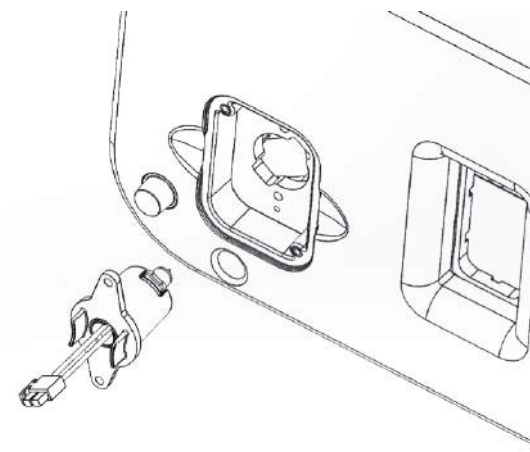

Fig. 3
5. Grab the two tabs on the plastic lamp assembly and remove the whole lamp assembly, this may need to be rotated slightly to allow it to be removed (Fig 3).